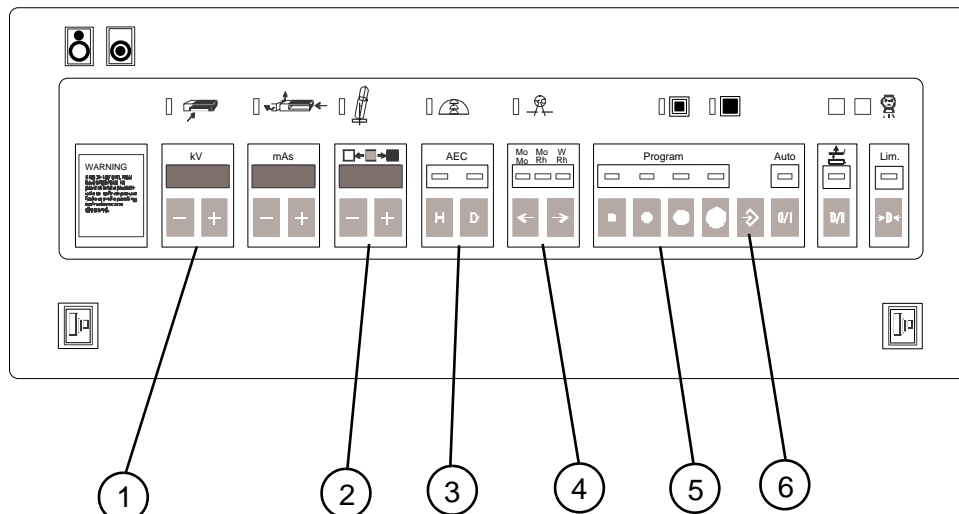

Fig. 1
6. Set kV (1/Fig. 1), density (2/Fig. 1), H/D (3/Fig. 1) and anode/filter combination (4/Fig. 1), for one of the programs according to the test values previously noted in the protocol, except density correction which should be set to 0. For M1000 we recommend the factory settings (Page 9 - 2).
7. Save the program parameters if needed by pressing the store button (6/Fig. 1) and then the program button (5/Fig. 1). Keep both buttons pressed until the program button stops flashing (approx. 5 s). Repeat the procedure in step 5 to 6 for the remaining programs.